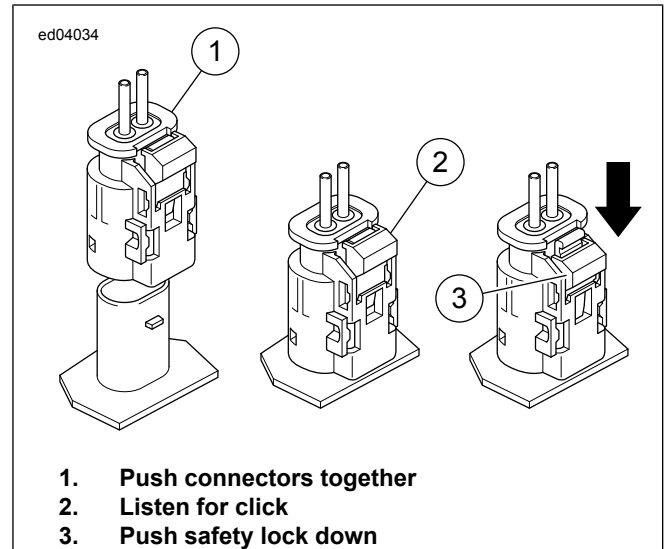

Figure B-24. Mating Connector
1. See Figure B-24. Push the halves of connector together until they click.